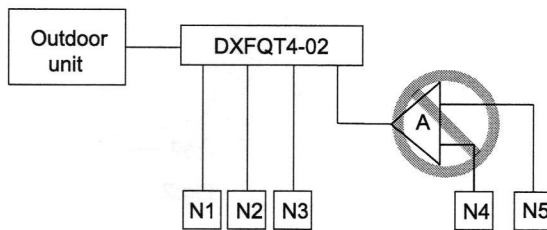

Fig.7
- Each branch can connect one indoor unit only see fig.7; it cannot connect to another branch joint see fig.8.